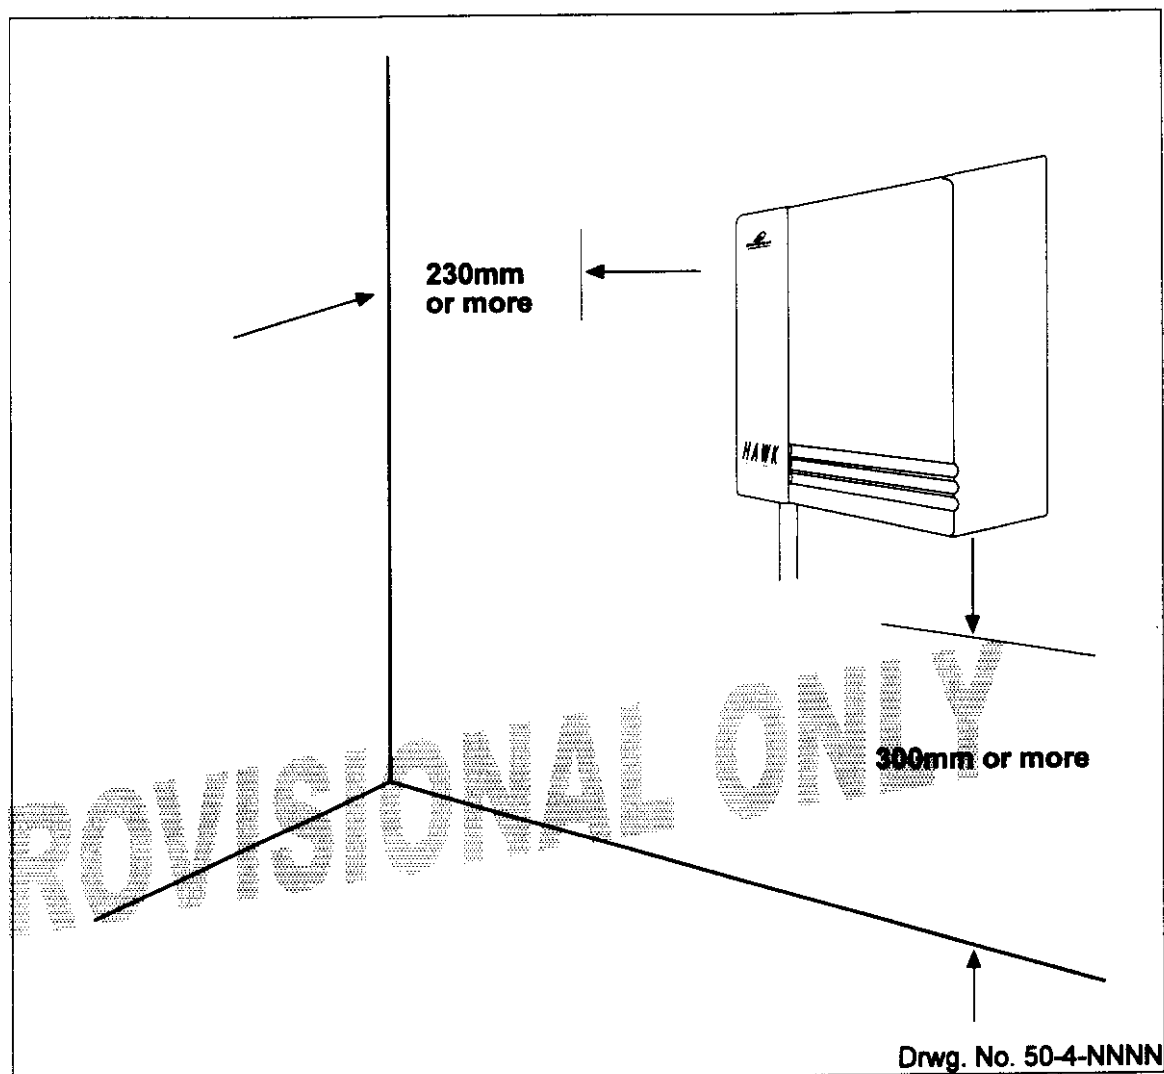

Figure 3.9: Wall Mount Positioning
- > There should be enough room around the terminal to enable installation and any subsequent servicing to be easily carried out. Refer to Figure 3.9.